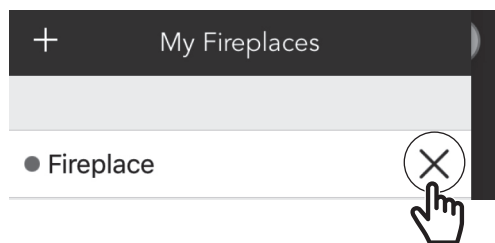

Fig. 8
- To remove your fireplace from your Apple device, tap the "X" next to the fireplace name that you want to remove. (Fig. 8)